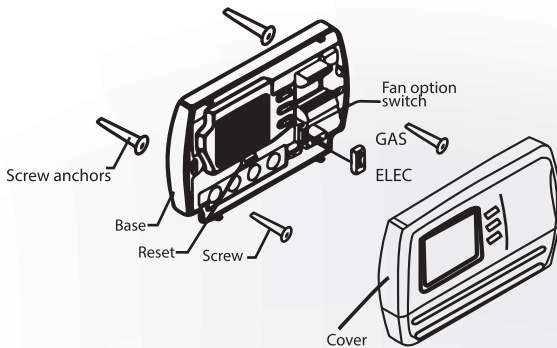

FIGURE 1
- 8** Fasten the base loosely to the wall as shown in **Figure 1**, using two mounting screws. Place a level against the bottom of the base and adjust until level, then tighten the screws. (Leveling is for appearance only, and will not affect thermostat operation.)
Read the following information before setting the fan option switch (See figure 1). If you are unsure of your application, contact a qualified service person.
RESET button (See fig. 1). All user's changed settings will revert to factory default settings, including program settings. Use the **↑** and **↓** buttons to select. To exit the configuration menu and return to normal operation, press the **RUN** button. If no buttons are pressed within 30 seconds, the thermostat will exit the configuration menu.